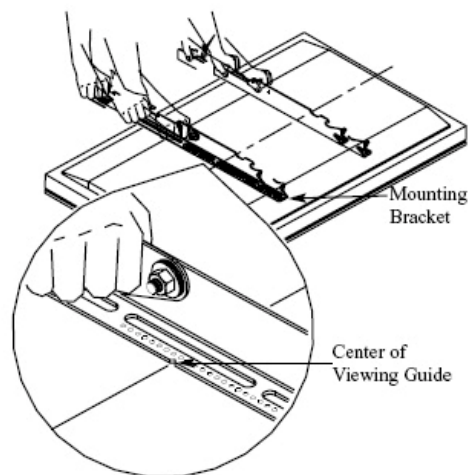

Figure 9
6. The mounting brackets are designed with a center of viewing guide on the outside (Figure 9).